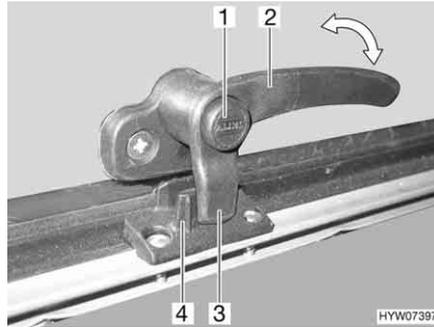
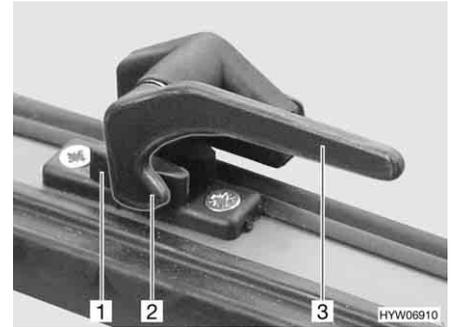

Fig. 62 Catch lever with safety knob in "closed" position
Fig. 63 Catch lever in "closed" position
- Press and hold the security button (Fig. 62,1), if present.
- Turn the catch lever (Fig. 62,2 or Fig. 63,3) a quarter turn towards the centre of the window.
- Turn the catch lever (Fig. 62,2 or Fig. 63,3) a quarter turn towards the window frame. The locking catch (Fig. 62,3 or Fig. 63,2) on the catch lever is entirely on the inner side of the window catch (Fig. 62,4 or Fig. 63,1).
- "Firmly closed" (Fig. 62 and Fig. 63)